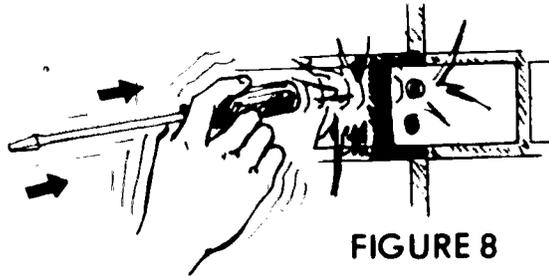

FIGURE 8
4. Tap with screwdriver butt to seat (Figure 8)